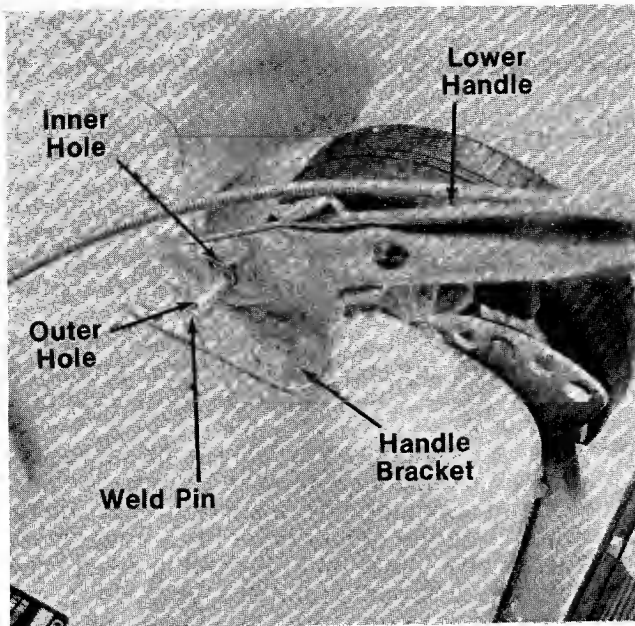

FIGURE 1.
2. Fasten hole in lower handle over weld pins in handle mount brackets on deck. Secure with hairpin cotters in inner hole on weld pin. See figure 1.